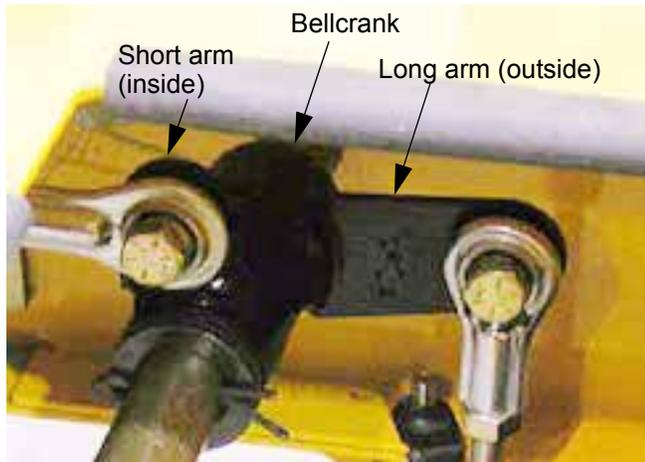

Figure 11.3
- 11.3. Take note of or mark the orientation of the steering bellcrank assemblies. See Figure 11.3.